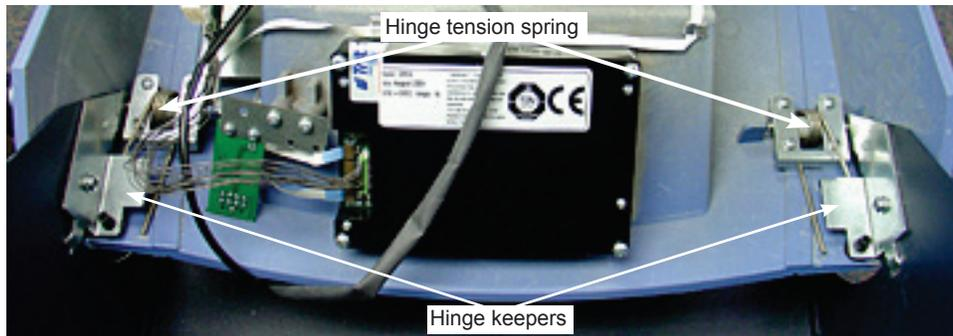

Figure 8. Primary components of the control panel hinge mechanism
2. Refer to Figures 8 and 9. With both sides of the control panel supported, carefully remove the mounting screws for the left and right keepers. Slowly release any remaining tension on each hinge spring.